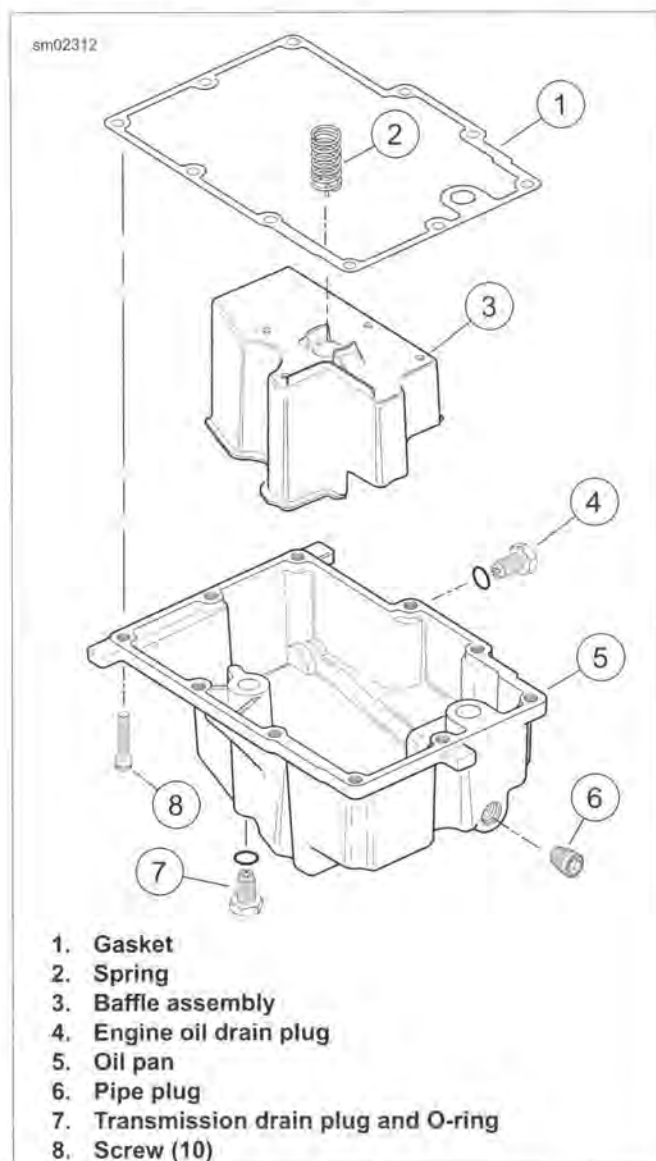

Figure 3-133. Oil Pan Assembly
2. See Figure 3-133. Remove the engine oil drain plug (4). Remove fill plug/dipstick and oil filter. Drain oil into suitable container.
3. Remove the transmission drain plug (7) and drain transmission lubricant into suitable container.
4. Remove screws (8) that secure the oil pan to the transmission housing.
5. Remove oil pan (5) and gasket (1). Discard gasket.
6. Remove baffle assembly (3) and spring (2) from oil pan.
2. See Figure 3-133. Insert baffle assembly (3) and spring (2) in oil pan.
3. Place **new** gasket (1) on oil pan.
5. Place **new** gasket (1) on oil pan flange. Allow sealer to dry until tacky.